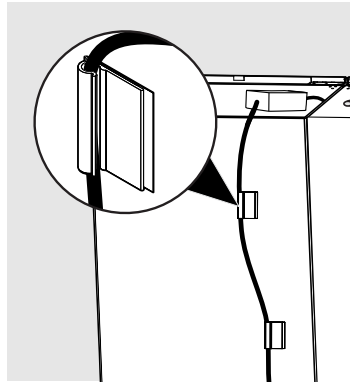

Fig. 13
13. Use the clips provided to hold the excess power cords to the back of the units such that all wires are away from the floor (Fig. 13).